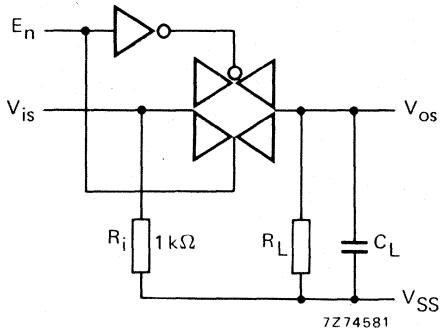

Fig.2
1.  $R_L = 10\text{ k}\Omega$  to  $V_{SS}$ ;  $C_L = 50\text{ pF}$  to  $V_{SS}$ ;  $E_n$  at  $V_{DD}$ ;  $V_{is}$  is  $V_{DD}$  (square-wave); see Fig. 2.
$V_{is}$  at  $V_{SS}$  and  $R_L$  at  $V_{DD}$  for  $t_{PLZ}$  and  $t_{PZL}$ ; see Fig. 2.
see Fig. 2.